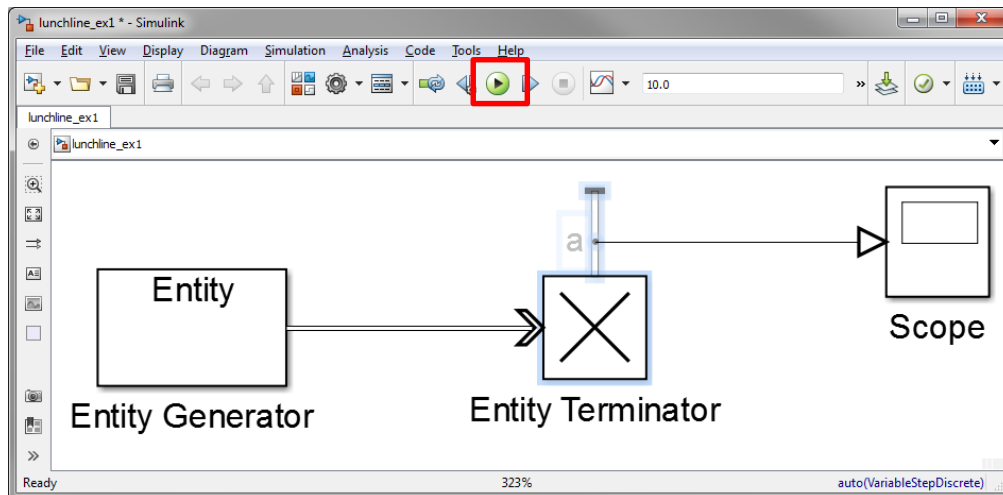
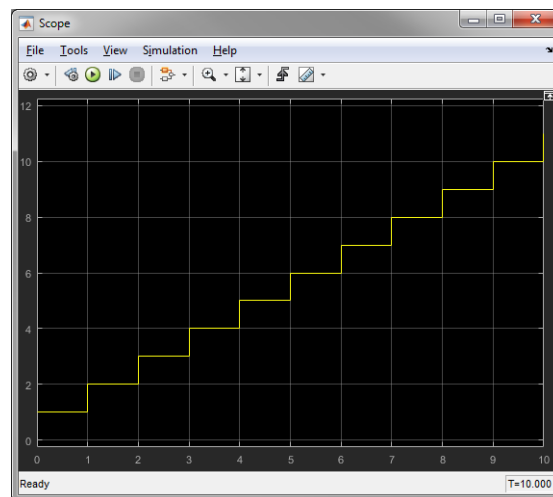

Figure 5: Exercise 1
Figure 6: Exercise 1 scope display
3. Connect up the blocks as shown in Figure 5. To connect the blocks, click on the output port of the Entity Generator with the left mouse button, hold the button down, drag the wire to the input port of the Entity Terminator, then release the mouse button. Repeat to connect the entities arrived ‘a’ port to the Scope block.
4. Click on the Run button to start the simulation. (Highlighted in red box in Figure 5). Double click the scope to view the arrived entities as shown in Figure 6.